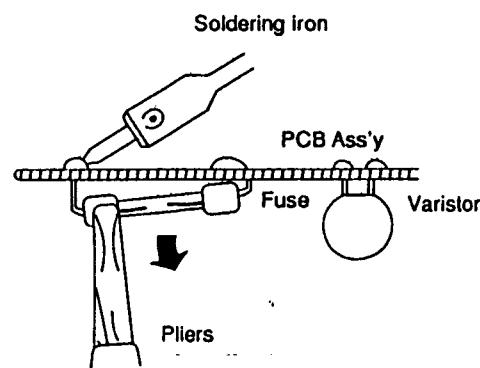

Fig. 6
- Pull out the fuse at the metal clasp using pliers while heating the soldered leads on the back side of the PCB Ass'y with a soldering iron(30W or 60W). (Fig.6)